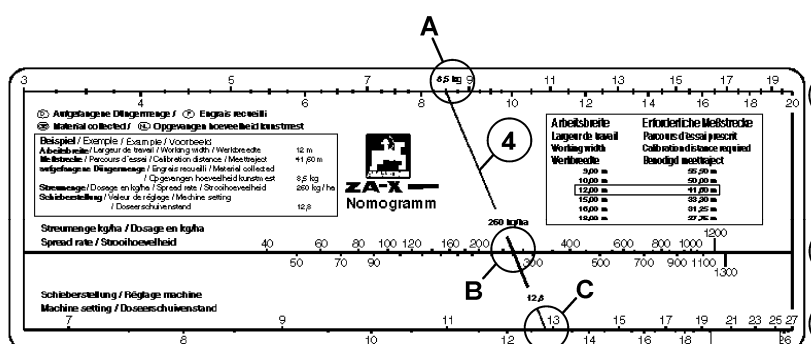

Fig. 62
- (1) An **upper scale** (Fig. 62/1) for the **quantity of fertiliser caught** during the spread rate check, between 3 and 20 kg.
- (2) A **middle scale** (Fig. 62/2) for the desired **spread rate** between 40 and 1300 kg/ha.
- (3) A **lower scale** (Fig. 62/3) for the **slider position** from 7 to 27.